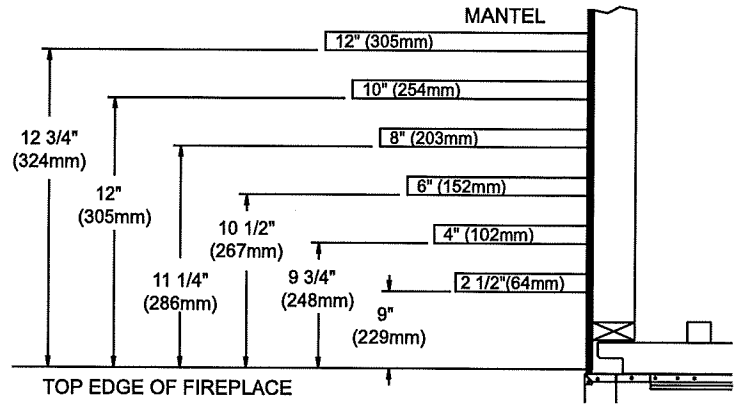

Figure 11
**Mantel Chart (Figure 11)**
Finish the walls with the material of your choice. Figure 11 shows the minimum vertical and corresponding maximum horizontal dimensions of mantels or other combustible projections above the top front edge of the fireplace.